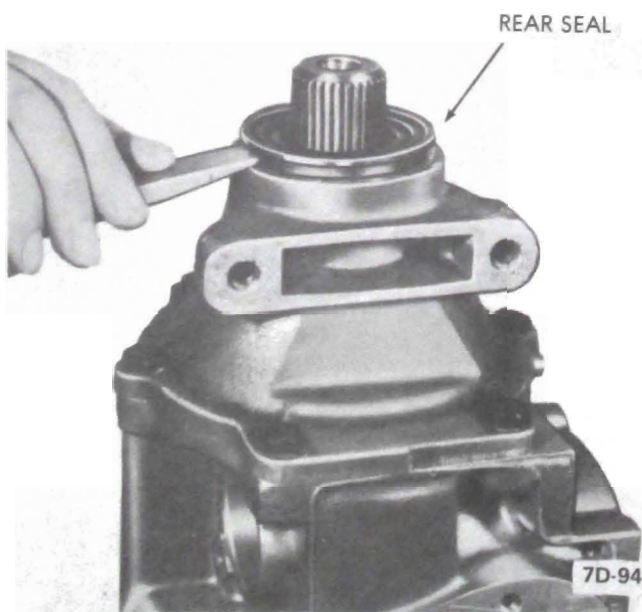

Figure 7D-45
1. If necessary to replace, pry the rear oil seal from the extension housing. See Figure 7D-45.